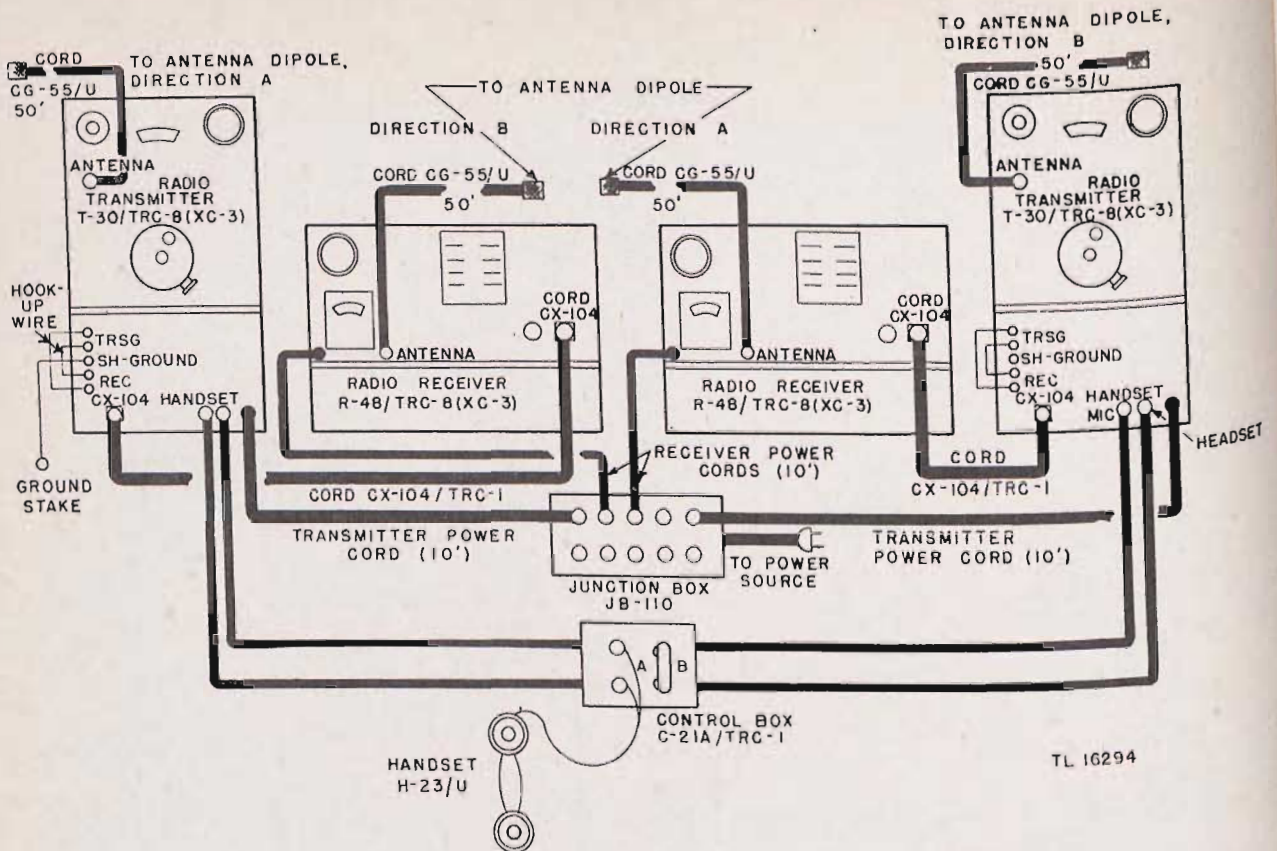

Figure 47. Relay station, cording diagram.
(3) Plug the a-c cords of the receiver and transmitter into the outlets on Junction Box JB-110.
(4) Connect the receiver and transmitter as shown by the cording diagrams, figures 47, 48, 49, 50, or 51, depending on the type of operation required.